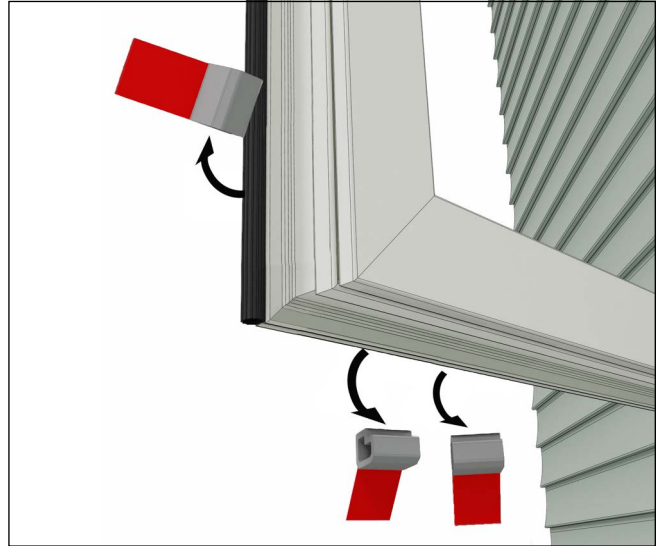

Figure 38
1. On Casement/Awning units, open the sash and remove the shipping blocks located on the exterior lock-side. See Figure 38.